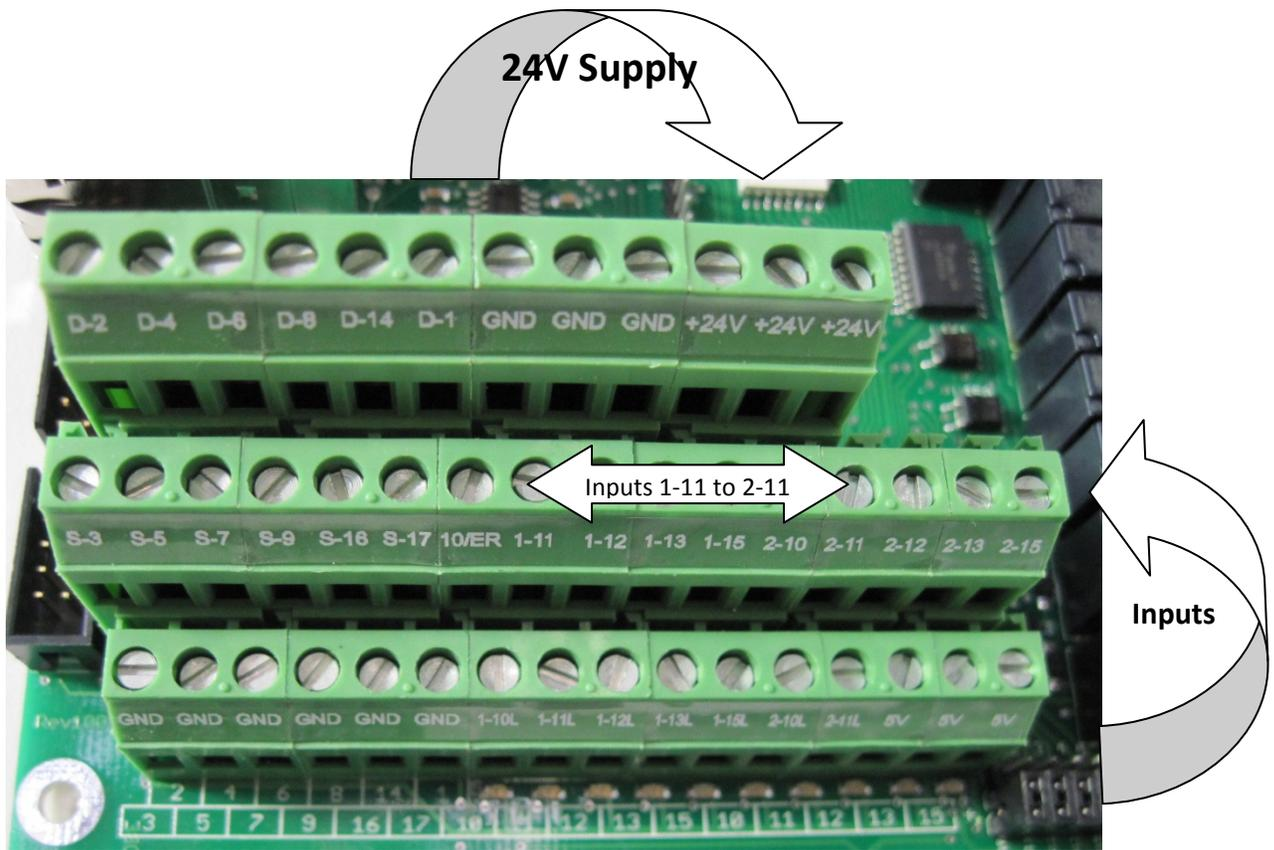

Figure 47 Where to Wire up Your Limit Switches
3. Wire the remaining side of the first switch to 24V from the breakout board (see 24V Supply on Figure 47).